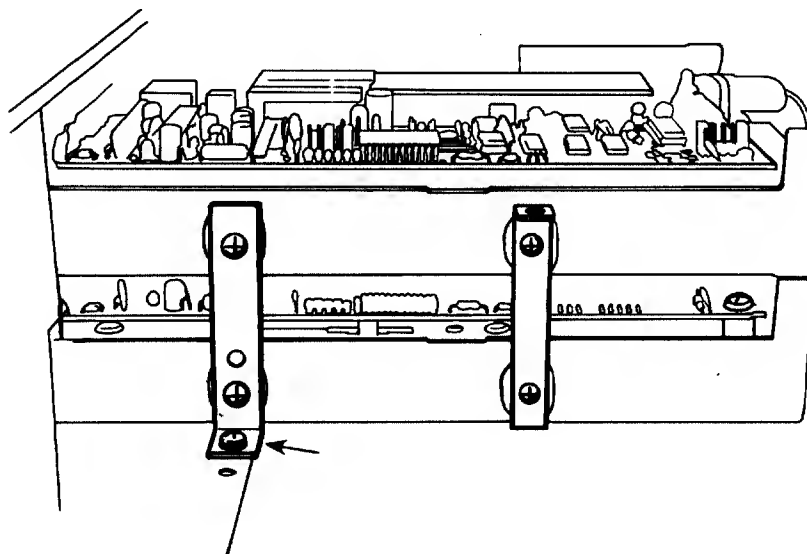

Figure 3-2B: MD I/MD III Drive Removal - Revision B and C Chassis
3. Remove the screw at the base of the "L" bracket on the right side as viewed from the front of the unit (see Figure 3-2B).